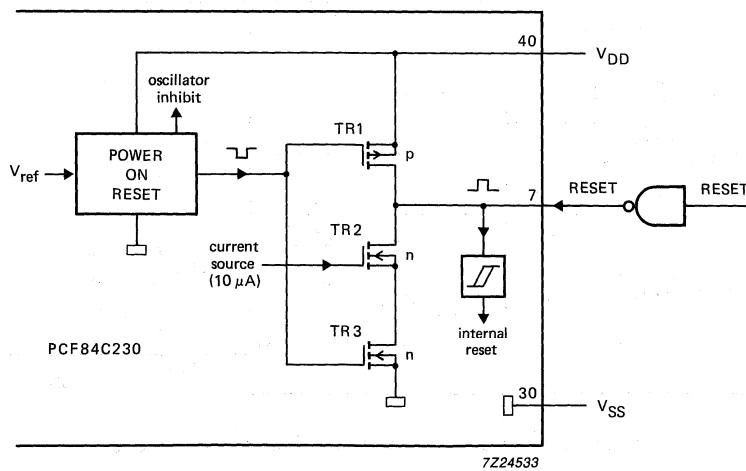

Fig.23 External power-on reset configuration.
3. Figure 23 shows an external reset to the PCF84C230 during power-on. The external reset signal must remain HIGH until  $V_{DD}$  has reached its minimum operating value corresponding to the selected oscillator frequency. When a reset is completed (RESET goes LOW) before the oscillator has started up, program execution begins after the oscillator start-up time plus 1866 clock periods have elapsed (see Fig.24). If the oscillator is started-up prior to the completion of RESET, then program execution begins 1866 clock periods after RESET goes LOW.